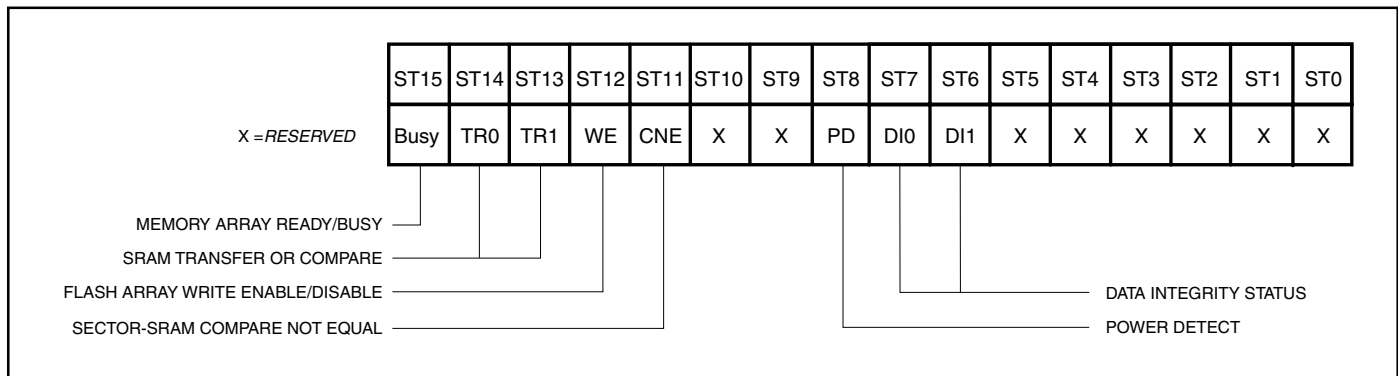

Figure 6. Status Register Bit Locations
The status register provides status of the Flash array's Ready/Busy condition (R/B), transfers between the SRAM and program buffer (TR0 and TR1), Write-Enable/Disable (WE), Compare Not Equal (CNE), Power Detect (PD) and Data Integrity status (DI0 and DI1). The register can be read using the Read Status Register command (Figure 6).